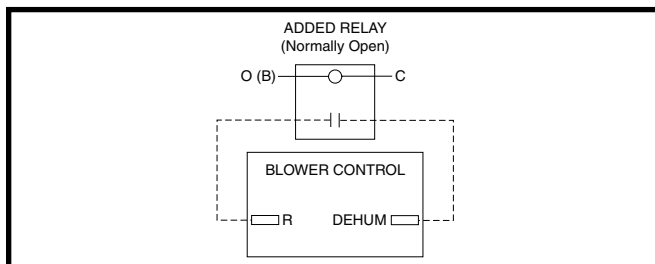

Figure 26. DEHUM Wiring Configuration without Humidistat
- If a humidistat is not available, it is an acceptable option to connect the **R** & **DEHUM** via a field supplied normally open relay. See Figure 26 (page 26). The **R** & **DEHUM** terminals should be connected across the normally open relay terminals. The O (B) & C terminals should then be connected across the relay coil. This option causes the blower to run at a reduced CFM for 10 minutes after a call for cooling.